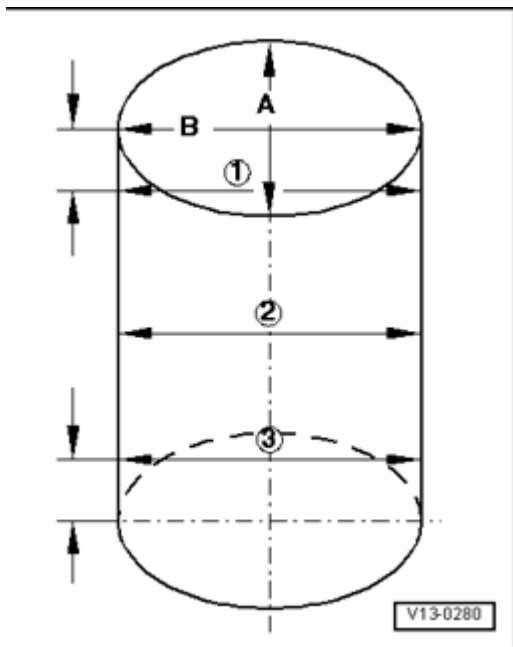

Fig. 196: Checking Cylinder Bores
- Checking cylinder bore hole. See **Fig. 196**